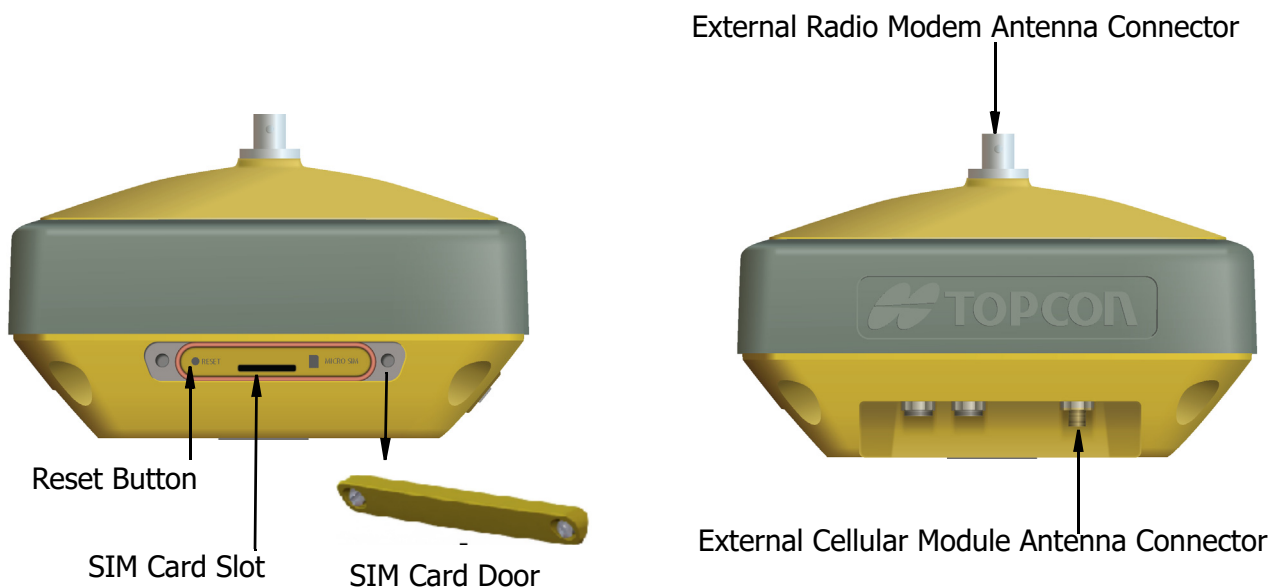

Figure 2-3: HiPer VR with a R2 UHF Modem and with a Cellular Module
3. A HiPer VR GNSS receiver **with** a R2 UHF modem (P/N 1016578-05) and **with** a cellular module. The upper part of the receiver includes a connector for the radio modem antenna. The lower part of the receiver contains the **External Cellular Module Antenna Connector**. The **Reset Button** and **SIM Card Slot** are located under the **SIM Card Door** in the lower part of the receiver (Figure 2-3).